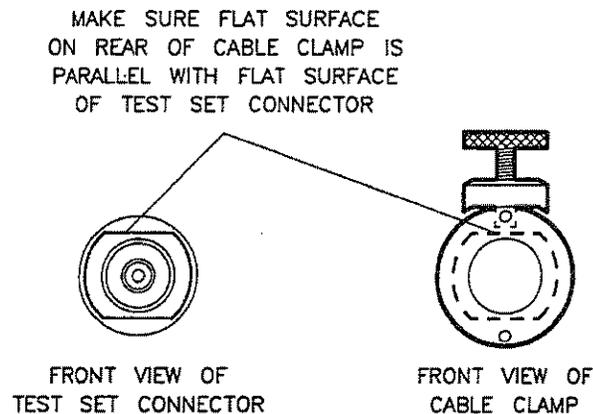

Figure 11. Visually Aligning Clamp and Nut Flats
3. See Figure 11. Turn the clamp so that the thumbscrew is pointing up. From there, turn the clamp to visually align the clamp flats with the flats on the test port connector nut. This will minimize rotating the connector in the next step.